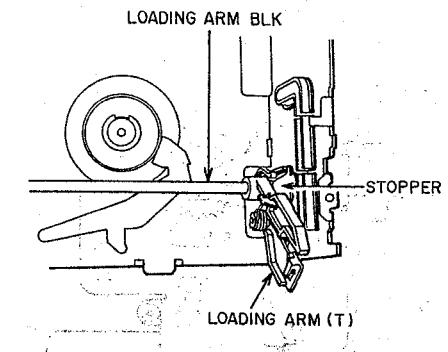

Fig. 3-2
- 1) Release the stopper on the right side end of the LOADING ARM BLK's shaft (Refer to Fig. 3-2) by pressing the stopper tab with a flat head (—) screwdriver. Then remove the shaft's right end from the bracket.